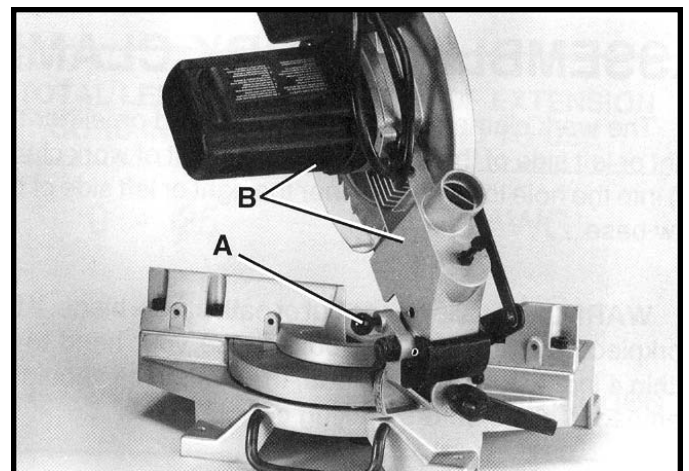

Fig. 4
2. Fig. 4, illustrates the lockpin (A) pulled out and the cuttinghead (B) in the up position.